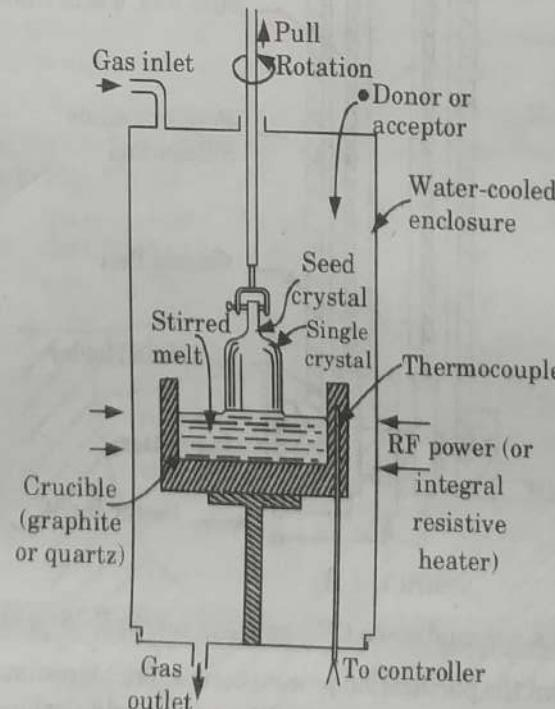

Fig. 1.3.1. Czochralski crystal-growing apparatus.
- Fig. 1.3.1 shows the schematic of a CZ system which can be used for both silicon and GaAs crystal growth. Here, the melt is contained in a crucible and kept in a molten condition by heating.